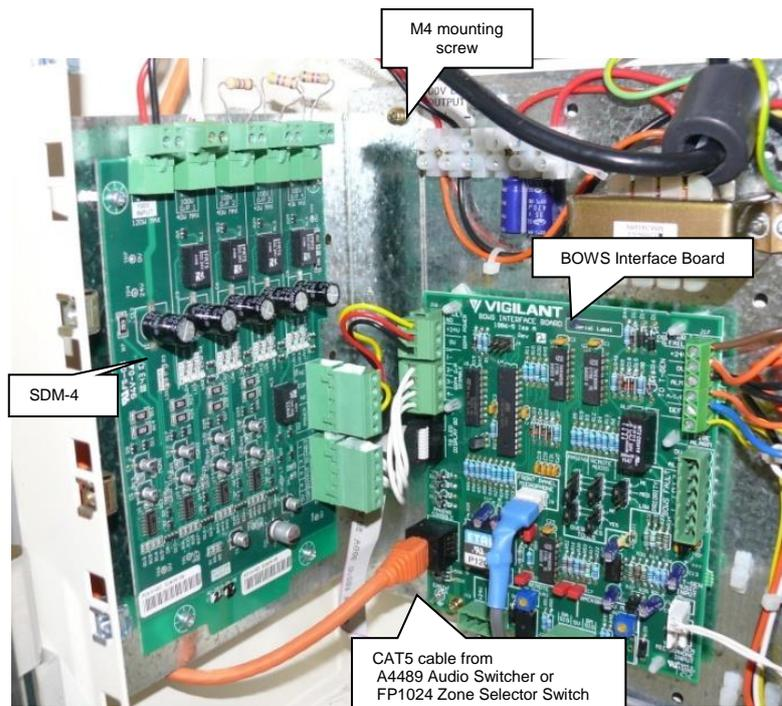

Figure 9. SDM-4 mounting
14. Connect the other end of the loom (RJ45 plug) to the PAGING CONSOLE input of the BOWS Interface Board (Figure 9).
3. Mount the SDM-4 mounting bracket to the left-hand side of the BOWS gearplate using the two M4 x 10 screws as per Figure 9.
5. Plug the looms into the SDM-4 module and the BOWS Interface board as shown in Figure 9.